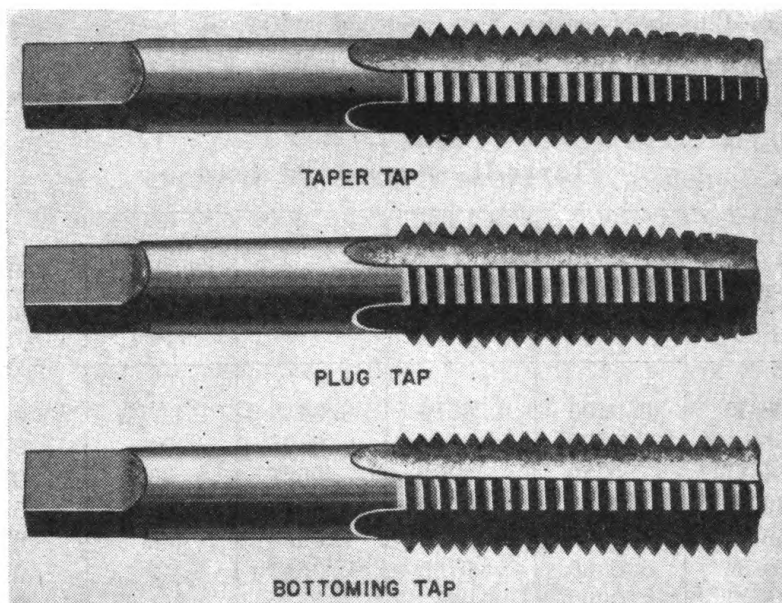

FIGURE 57.—Taps.
c. The three forms of taps, shown in figure 57, are taper taps, plug taps, and bottoming taps. The taper tap is used to start all threads, and may be used to finish the operation when it can be run entirely through the work. The plug tap is used when one end of the hole